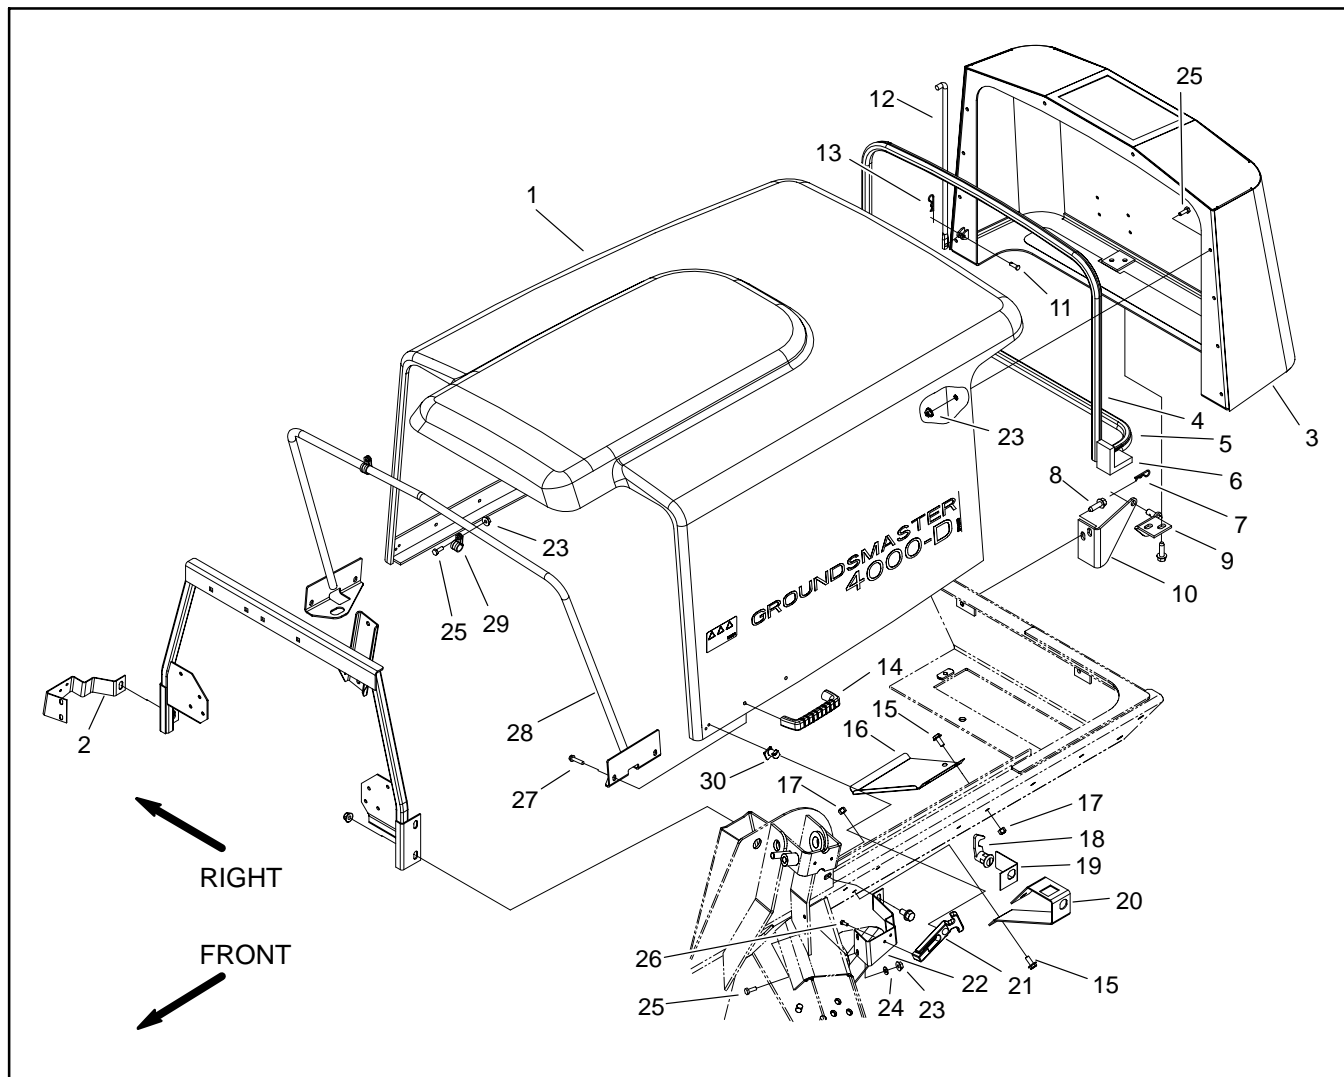

Figure 13
2. Remove hood using Figure 13 as a guide.
1. Install hood using Figure 13 as a guide.